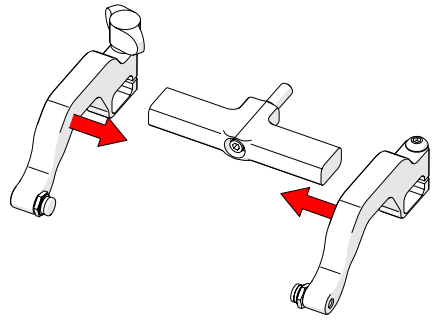

Fig. 132 - Place arms back onto yoke
16. Place the probe holder arms on the yoke and tighten the arm clamp screw and probe holder adjustment knob (Fig. 132).